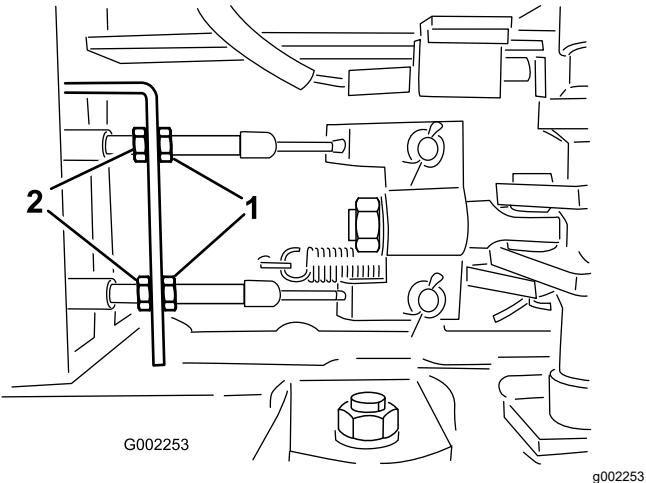

Figure 95
5. Loosen the front jam nuts on the brake cables under the front end of the sprayer (Figure 95).
6. Tighten the rear jam nuts equally until the brake pedal moves between 1 to 2 cm (1/2 to 1 inch) before you feel resistance (Figure 95).